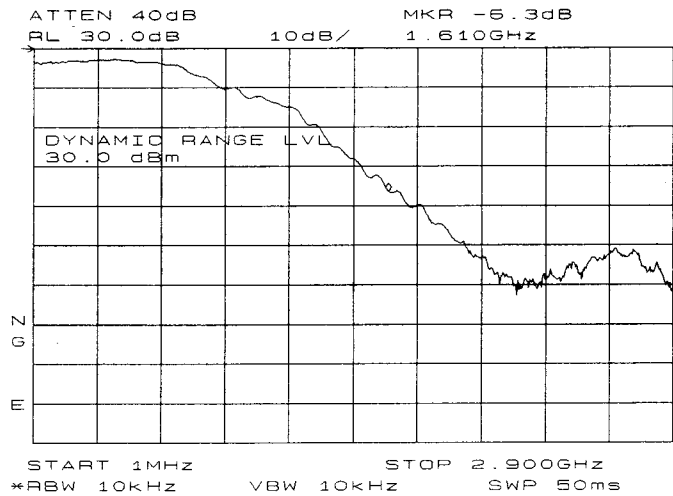

Figure 3-29. RANGE LVL adjusts analyzer settings for compression-free measurements.
After returning the **NORM REF LVL** to 0 dB, increase **RANGE LVL** to 30 dB. As shown in Figure 3-29, the trace moves fully within the graticule. Again, note the following three instrument parameters: (1) the input attenuator value has changed to 40 dB, (2) the marker-amplitude readout displays -6.3 dB, and (3) the ERR 903 A>DLMT error message no longer appears.